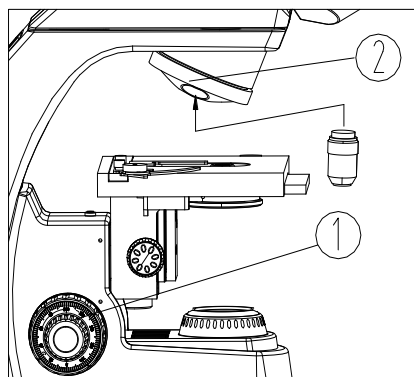

Fig.4
1. Rotate the coarse focusing knob ① to lower the stage to a suitable position (see Fig. 4).
2. Then install the objectives into the nosepiece ② from the lowest magnification to the highest in clockwisedirection.